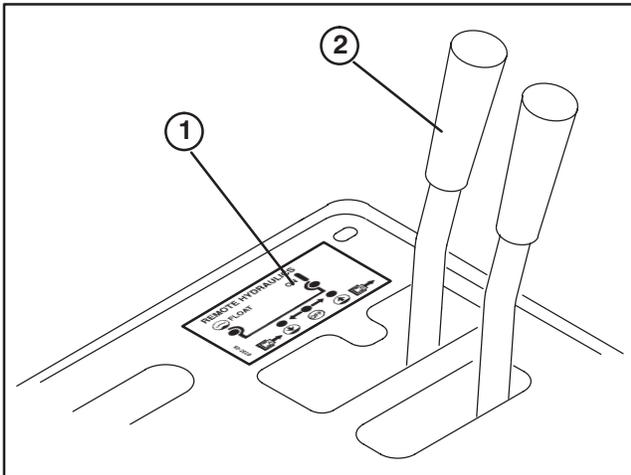

Figure 23
46. Clean console cover plate and install console decal to console, next to control lever, locating as shown in figure 23. Thread knobs onto respective control levers.